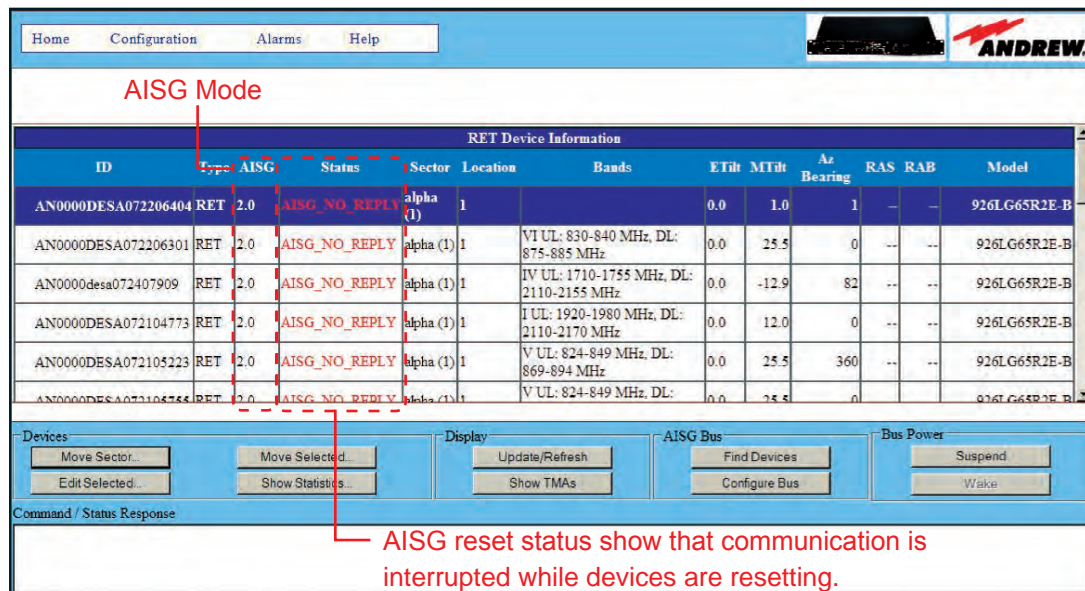

Figure 11-8. AISG 2.0 Reset Status Displayed On The Main Interface Screen.
4. Refer to the **AISG** column in the main interface screen to view the AISG protocol in use for each device (Figure 11-8).
5. Communication is temporarily interrupted to the AISG devices on the RET system when an **AISG 2.0 Reset** command is sent. This interruption is identified by a **AISG\_NO\_REPLY** message in the **Status** column in the main interface screen (Figure 11-8).